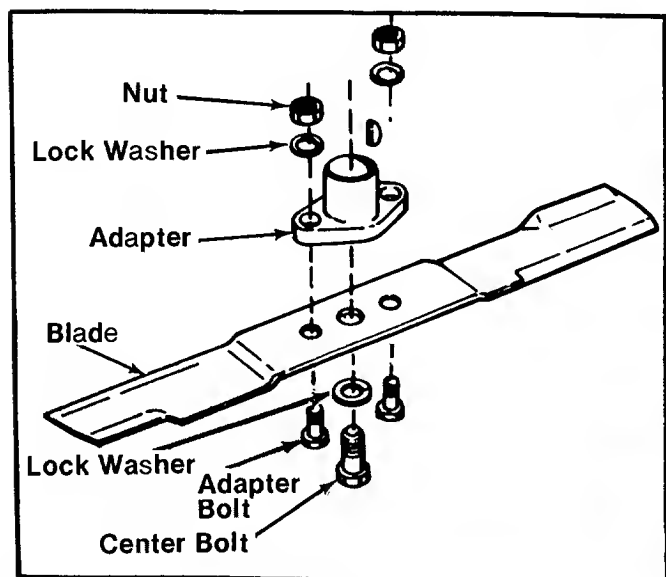

FIGURE 22. BLADE REMOVAL
Step 2. Remove the blade by removing the hex head cap screw in the center of the blade. Hold the blade with one hand and using a $\frac{1}{2}$ " open end, box or adjustable wrench, remove the bolt. See figure 22.